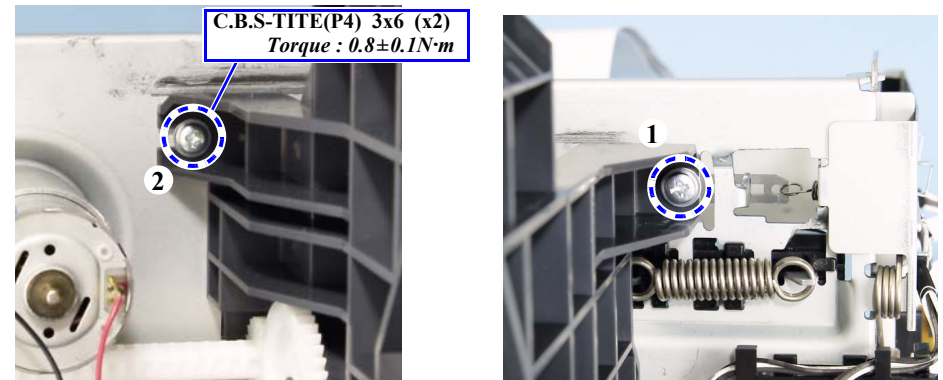

Figure 4-64. Removing the screw (ASF Assy)
6. Remove the right and left screws (x2) securing the ASF Assy. (Fig. 4-64)
- Tighten the screws in the specified order. (Fig. 4-64)